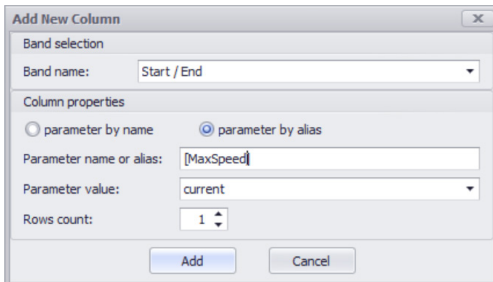

Fig. 107. Adding a new column.
- Then in the “Band name” field of the menu that appears (Fig. 107) select a band header from the list of offered headers. A band is a column shared by several parameters. For example, the “Sensors” band may be shared by individual columns with different sensors. A column may be without a band. The user can also create new bands (see the instruction below).